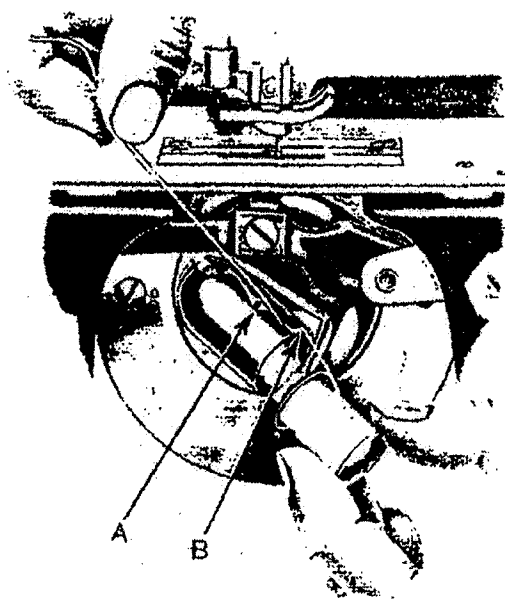
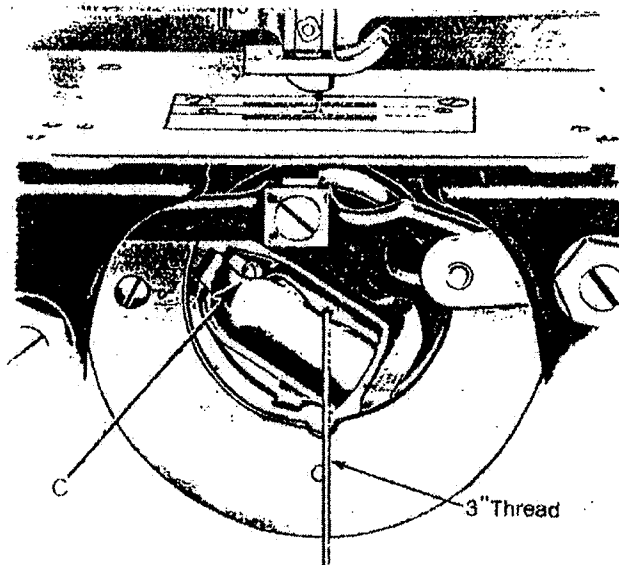
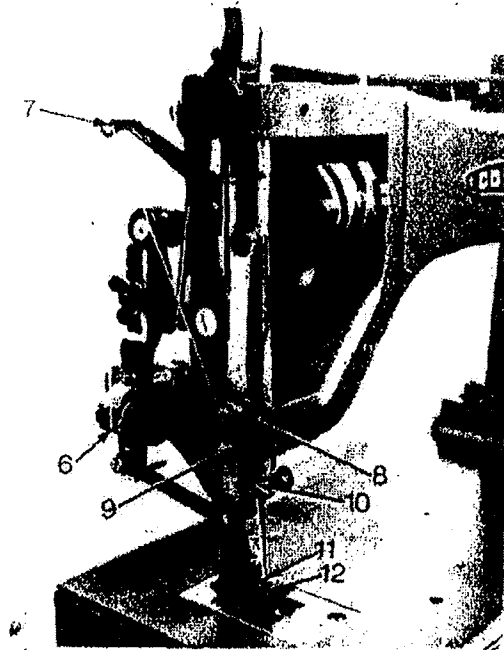
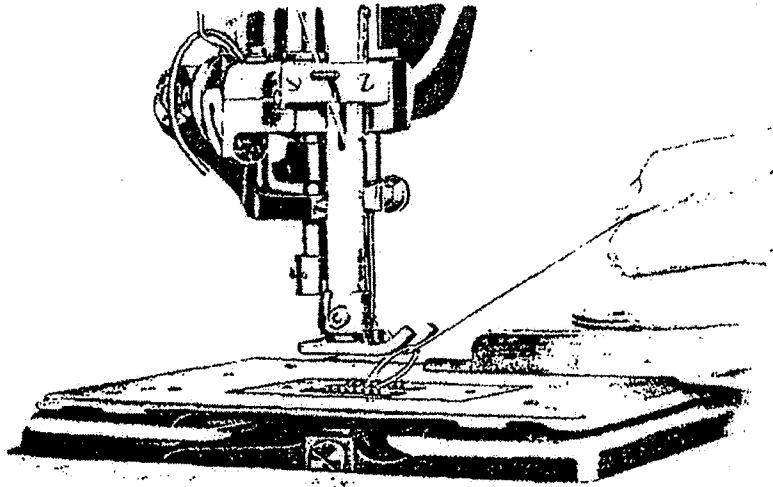

Fig. 4 Bobbin Replacement and Threading the Shuttle
Fig.5 Bobbin replaced and Shuttle thread
Fig.7 Threading the Needle
Fig. 8 Drawing up the Bobbin Thread
Hold the bobbin between the thumb and index finger of the left hand, at the same time the thread is drawing off from the underside toward the right as shown in Fig. 4. Place the bobbin in the cylinder as far as it will go, draw the thread in the slot B, Fig. 4 in the cylinder and under the tension spring, then into the delivery eye A, Fig. 4, then push the cylinder back until it is locked by the spring latch, and allow about 3 inches of thread to hang free from the shuttle Fig. 5 so that it can be drawn up through the throat plate, as noted in Fig. 8.
Fig. 7 into the slot 9 in the vibrating presser bar, into thread guide 10 on the needle clamp, and from left to right through the eye of the needle 11 then pass the thread down through the hole in the lifting presser foot 12. Draw about four inches of thread through the hole of the lifting presser foot with which to pull up the bobbin thread as shown in Fig. 8.
With the left hand hold the end of the needle thread,leaving it slack from the hand to the needle.Turn the balance wheel until the needle moves down and up again to its highest position,thus catching the bobbin thread;draw up the needle thread and the bobbin thread will come up with it through the hole in the throat plate(see Fig.8)Lay both threads back under the presser feet.
B. The tension on the bobbin thread is regulated by the screw C Fig.5 which holds the tension spring to the cylinder. To increase the tension, turn the screw to the right. To decrease the tension, turn the screw to the left.